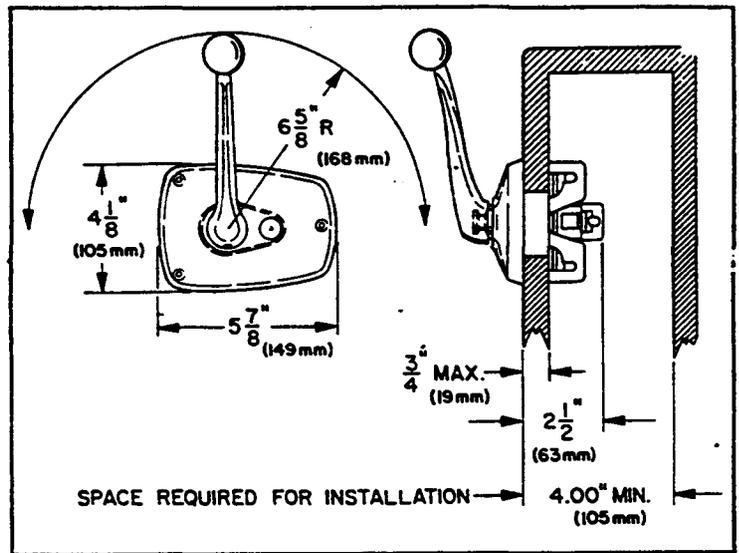

FIGURE 1
- b. Figure 1 shows the control dimensions and the recommended clearance behind the mounting surface.